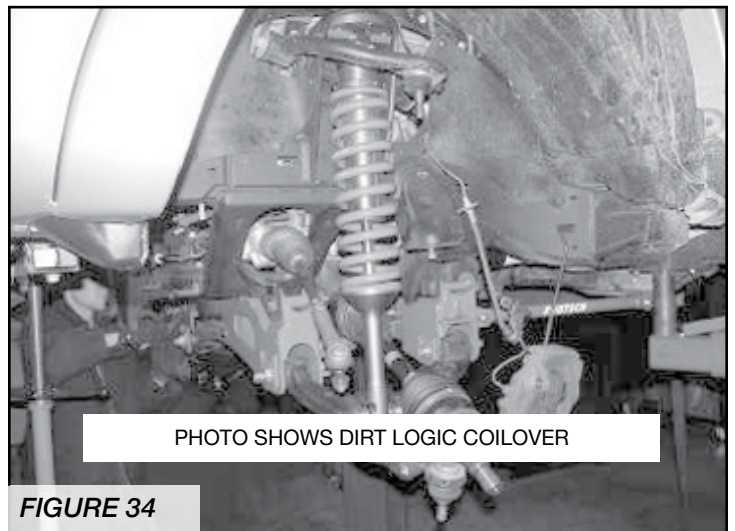

FIGURE 34
26. Locate and install FTS26008 Dirt Logic Coilover shocks as described in the instructions enclosed with the coilovers. **SEE FIGURE 34**